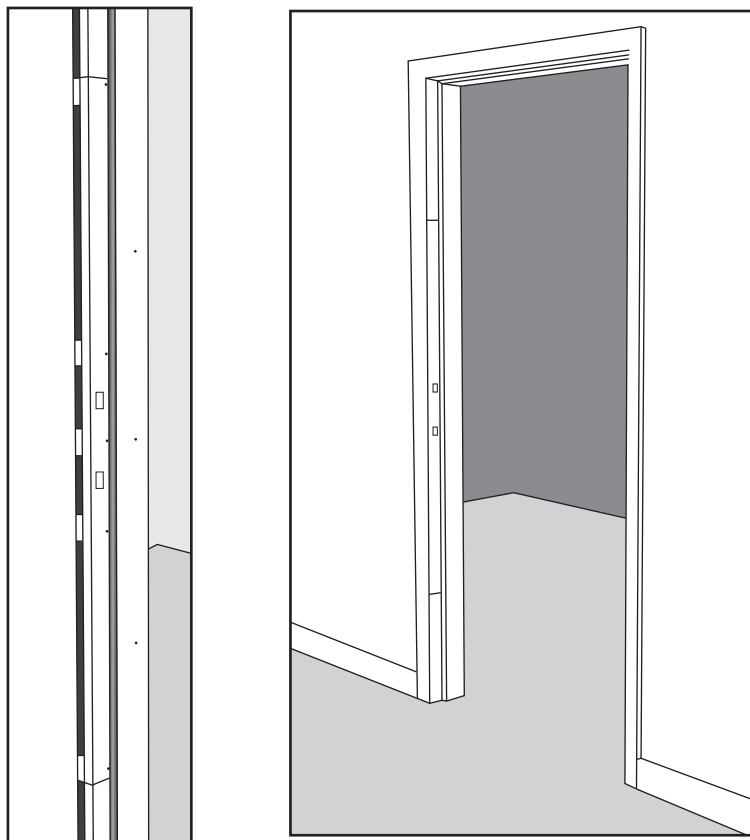

FIG. JS-07
8. Trim all shims flush with the edge of the door jamb and re-install the interior door trim moulding (FIG. JS-07).